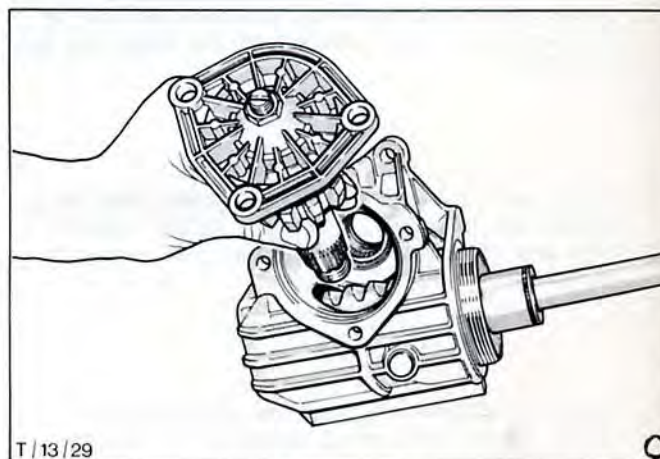

Fig.26. Assemble rocker shaft through housing ensure correct tooth mesh.
20. Fit new side cover gasket, slide rocker shaft assembly through housing, ensure correct tooth mesh. Secure rocker shaft side cover with three bolts and lock washers. Torque bolts to specification (see Technical Data). Fig.26.